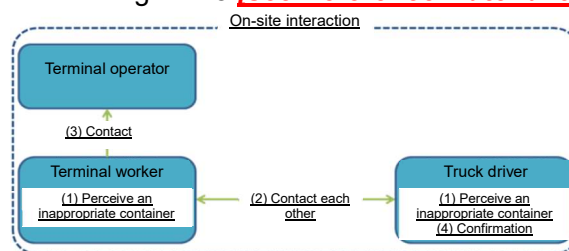

Figure 15 Communication and coordination path when an unbalanced load is detected
- If the driver notices an unbalanced load when carrying out an import container, the driver should communicate and coordinate with terminal workers and terminal operators to check the unbalanced load at an appropriate location as shown in Figure 15 [see Reference Material 9 "Simplified Method of Measuring Unbalanced Load" at the end of this chapter].